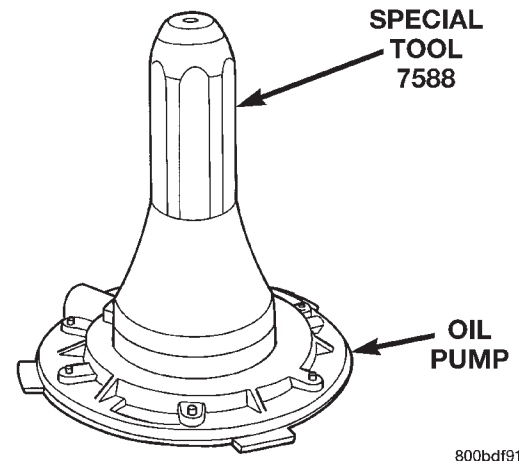

Fig. 66 Oil Pump Seal Installation
- (3) Install new seal in oil pump with Installer Tool 7588 (Fig. 66).
- (4) Insert oil pickup tube in oil pump inlet.